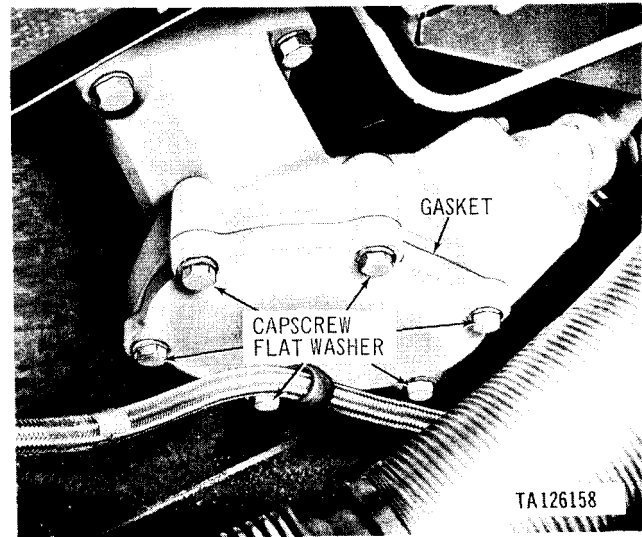

Figure 2-160. Removing or installing camshaft housing cover.
(1) Remove six capscrews, flat washers and loop clamp (fig. 2-160) attaching camshaft gear housing cover. Remove cover and gasket. Discard gasket.